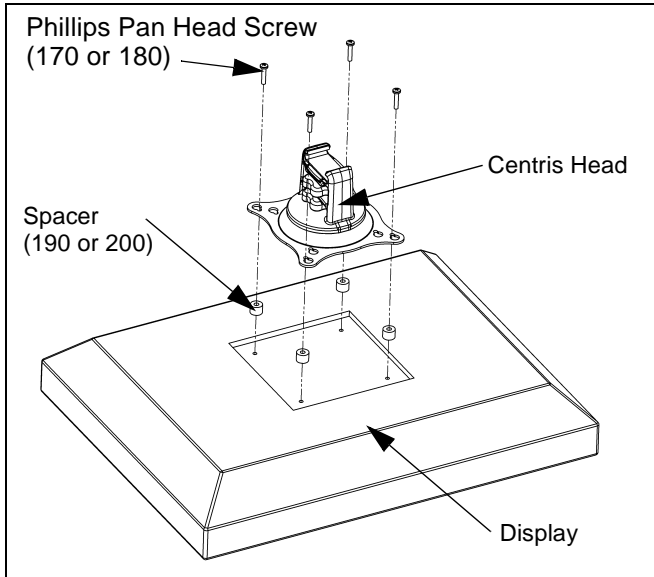

Figure 11: Mount Centris Bracket to Display
4. Place four 3/8" or 3/4" nylon spacers (190 or 200) over four mounting holes in display back (see Figure 11).
5. Align Centris head mounting holes with four nylon spacers (see Figure 11).
6. Secure Centris head to display using four M4 x 20mm Phillips pan head screws (170), or four M4 x 30mm Phillips pan head screws (180) (see Figure 11).